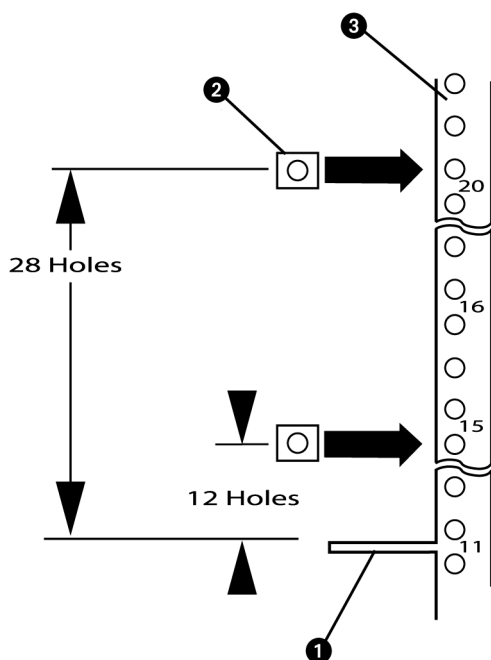

Figure 22 Preparing the rear rack columns
2. Prepare the rear rack columns (Figure 22):
- a. Standing at the back of the rack, count up from the top of the rail tray (①) to 12th and 28th on the rack's back face.
- b. Slide a sheet metal nut (②) on each of the located holes.
**NOTE:** Two sheet metal nuts should be on each back column face (③).